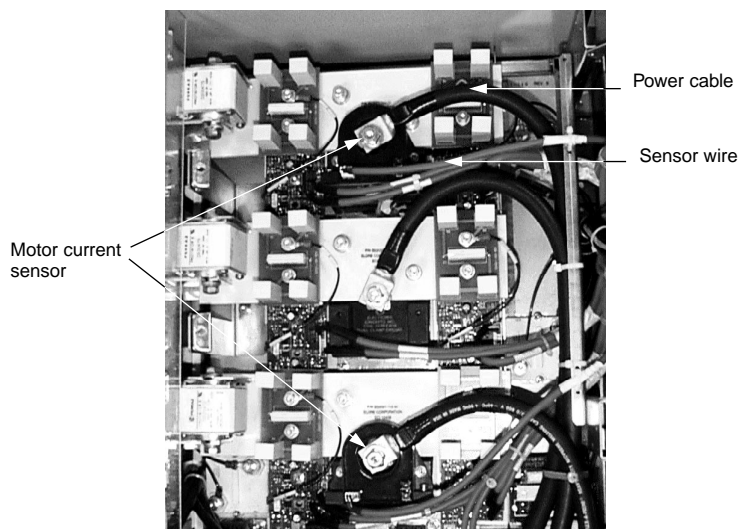

Figure 4.2.15: Motor Current Sensor
2. When removing the upper or lower clamp module, loosen the two screws on either side of the motor current sensor and remove the motor current sensor from the clamp module. When removing the center clamp module, remove the screw securing the cable clamp. Refer to Figure 4.2.15 on page 4.2.30.
3. Remove the power cable and sensor wire from the motor current sensor. Refer to Figure 4.2.15.
5. Loosen and remove the hex screw holding the T3 cable to the lower inverter IGBT section (this is the connection through the lower motor current sensor). Save the bushing for reinstallation of the cable. (See Figure 4.2.15 on page 4.2.30)